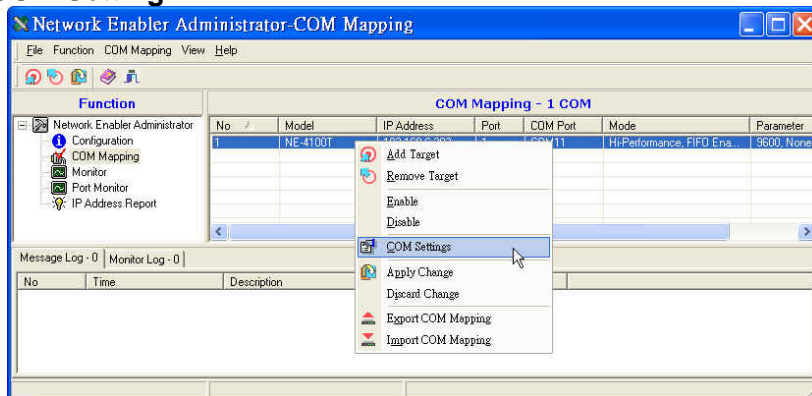

Figure A-5 Com port setting on selected network interface
- Return to program main screen, network interface new added will be appeared. Select this part then right-click, a lot of selection will be popped up as Figure A-5 shown and then click **COM Setting**.